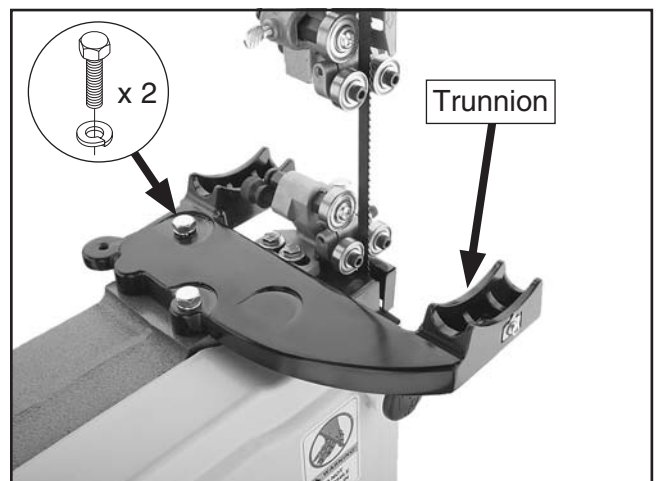

Figure 14. Trunnion installed.
- Position the table trunnion on the bandsaw, as shown in **Figure 14**, then secure it with the (2) $\frac{5}{16}$ "-18 x 1 $\frac{1}{4}$ " hex bolts and (2) $\frac{5}{16}$ " lock washers.